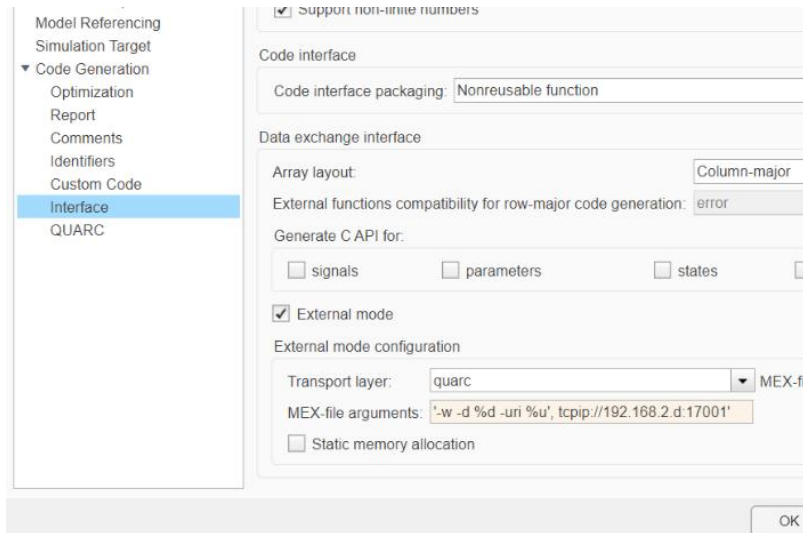

Figure 3: Setting the MEX-file arguments under Model Configuration Properties for the desired vehicle.
7. Expand **Code Generation** on the left side of the window, click on **Interface** and set the **MEX-file arguments** (Figure 3) as follows: